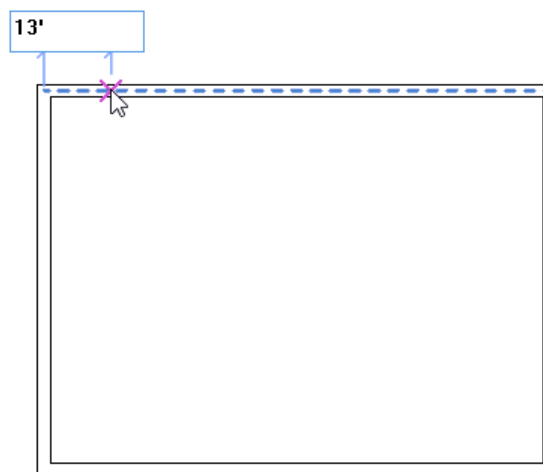

Figure 3-81 Entering the value in the edit box
1. To sketch the interior wall, move the cursor to the upper left corner of the exterior wall and then move the cursor horizontally toward the right. Enter **13'(3962 mm)**, as shown in Figure 3-81, when the temporary dimension and the intersection object snap appears. Now, press ENTER; the start point of the interior wall segment is specified on the upper horizontal exterior wall.